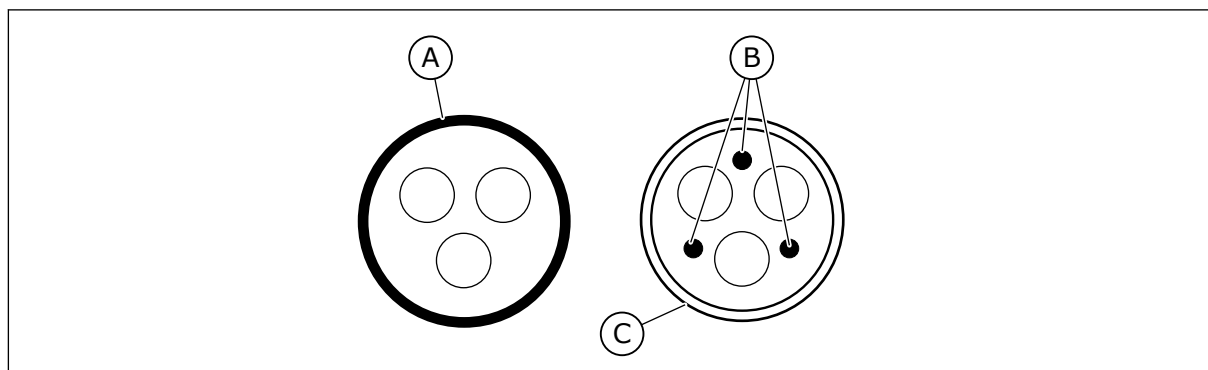

Fig. 36: Cables with PE conductors
2. A symmetrical power cable with a concentric protection wire. A cable for the specified mains voltage. We recommend an MCMK cable. See *Fig. 36*.
3. A symmetrical power cable with a compact low-impedance shield. A cable for the specified mains voltage. We recommend an MCCMK, or an EMCCK cable. We recommend that the cable transfer impedance [1...30MHz] is a maximum of 100 mΩ/m. See *Fig. 36*. * = For the EMC level C2, it is necessary to have a 360° grounding of the shield with cable glands in the motor end.